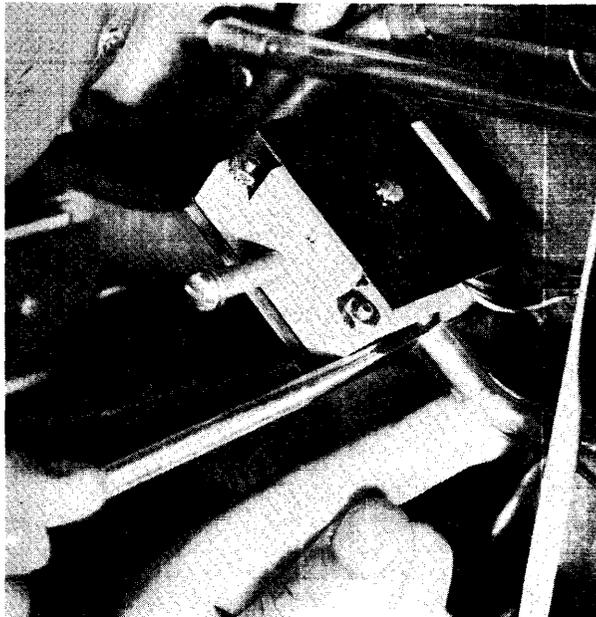

Figure 6-24
Step 3: Remove the vacuum hose from the switch fitting. This is most easily accomplished by prying the end of the hose away from the switch body, with a wide screw driver blade as shown in Fig. 6-24. Pulling on the hose tends to stretch it and make it grip the fitting more tightly.